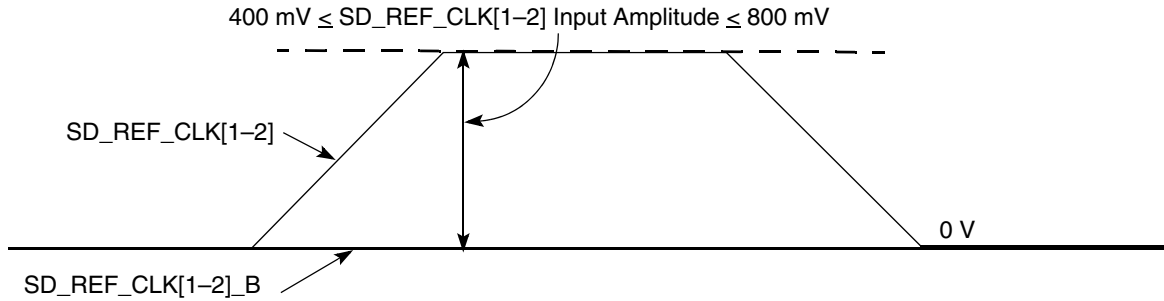

Figure 41. Single-Ended Reference Clock Input DC Requirements
- The $SD_REF_CLK[1-2]$ input average voltage must be between 200 and 400 mV. Figure 41 shows the SerDes reference clock input requirement for single-ended signaling mode.